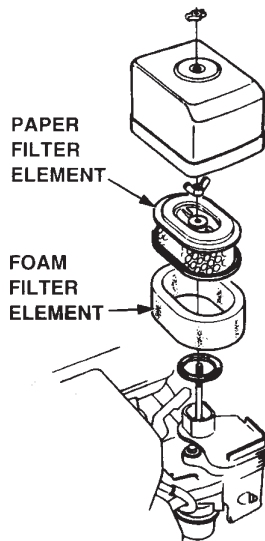

Figure 16. Air Filter
2. To clean or replace air filter loosen the wing nut on the air filter housing (Figure 16), remove the cover and take out air filter cartridge. If only cleaning of the air filter is desired blow through the air filter cartridge from the inside, moving a jet of dry compressed air up and down until all dust is removed.